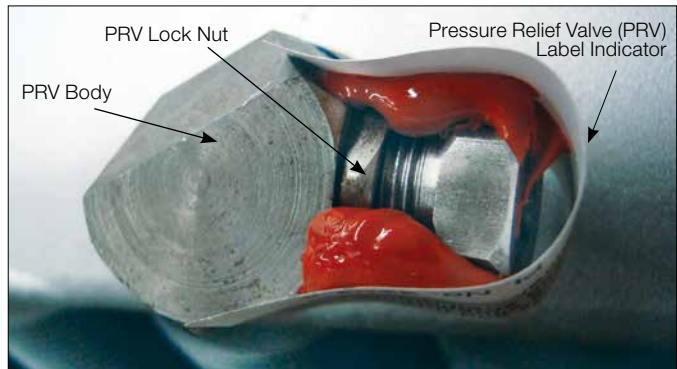

Figure 1
See Figure 1, page 5 and refer to A.3 Annual, page 4, for further instructions.
9. Venting pressure of the pressure relief valve (PRV) is factory set. Do not tamper with lock nut. (See Figure 1, page 5.)